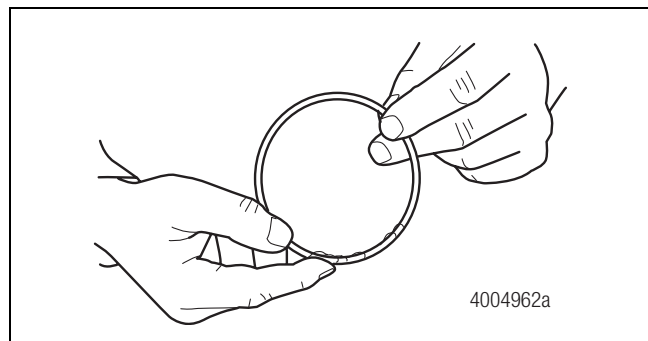

Figure 3.24
- A. Apply a light coating of bearing grease to the O-ring. Figure 3.24.